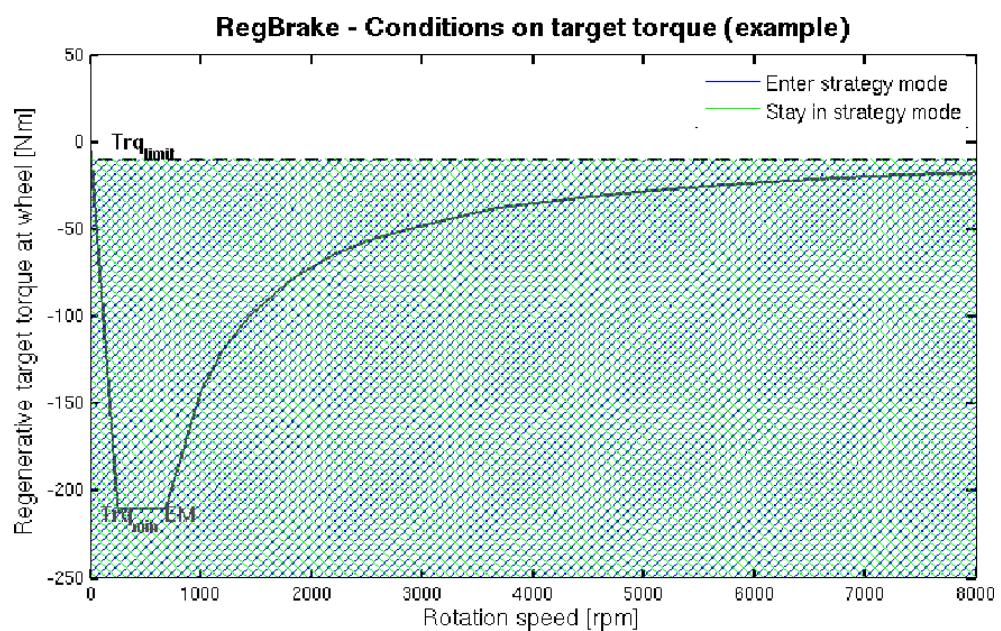
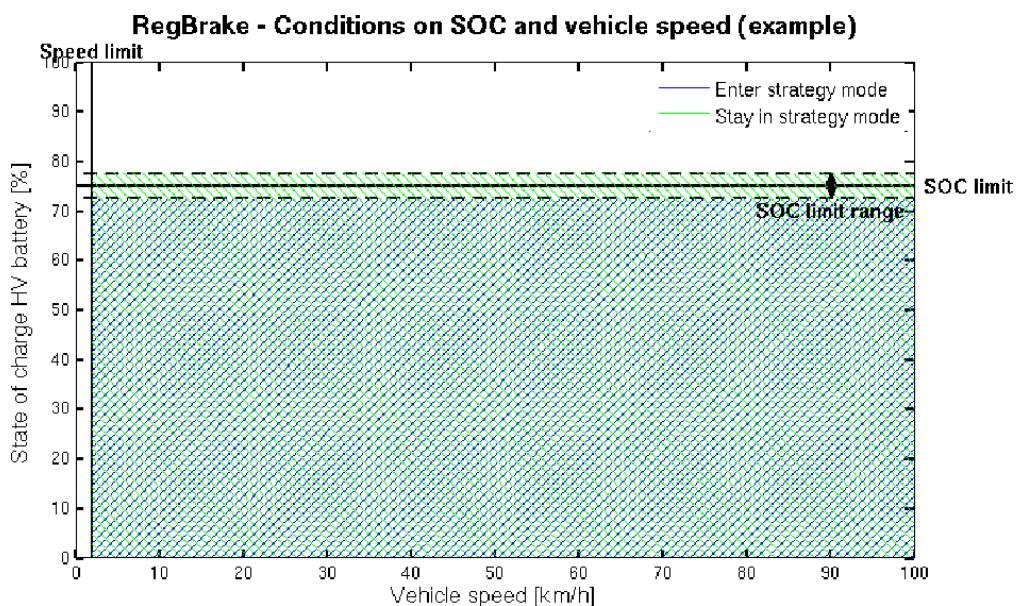

Figure 5.27: Powertrain - Conditions of target torque
Figure 5.28: Powertrain - Conditions of SOC and vehicle speed
- Regeneration** This tab provides the two most common operational strategy modes for electric vehicles: *regenerative braking* and *regenerative drag*. For both modes, the limits for initiating or deactivating the strategy must be defined. The meaning of these limits are shown in Figure 5.27 and Figure 5.28. The regenerative braking strategy is defined within the brake model (section 'Brake', pg. 86).